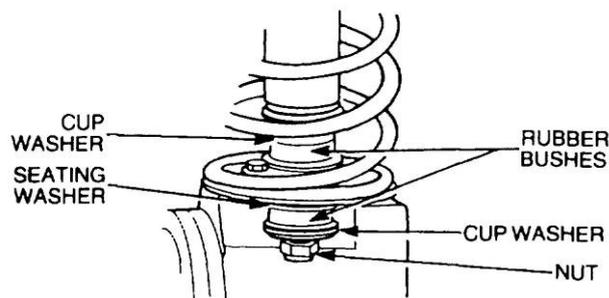

Figure 109 Removal of the Front Shock Absorber
- i.** Remove the nut securing each front shock absorber to the axle casing (Figure 109), then remove the lower cup washer, rubber bush and seating washer from the shock absorbers.